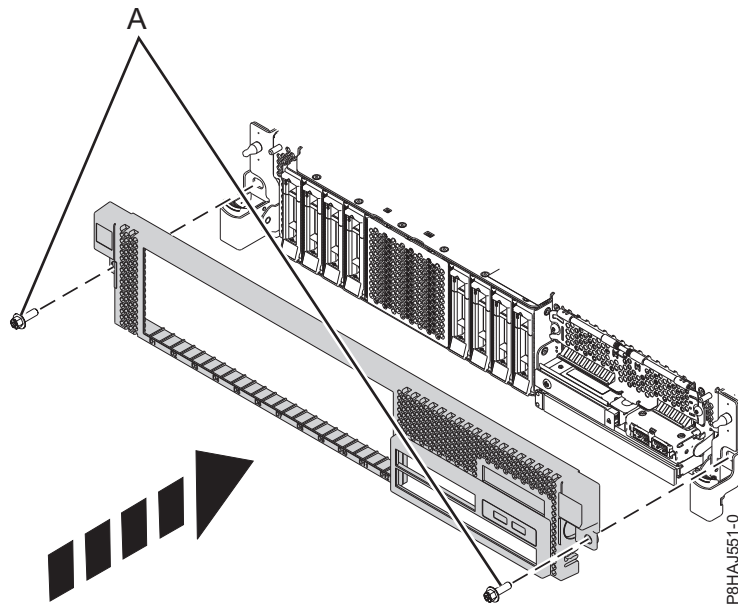

Figure 15. Installing the front cover
3. Close the release latches by pushing in the direction shown in Figure 15 on page 37. The cover snaps into place and has an indentation where you can hold onto it more easily.
4. Replace the shipping screws (A).